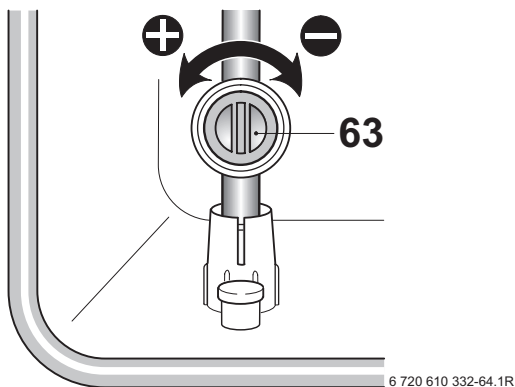

Fig. 47
- ▶ Adjust the gas flow restrictor (63) to obtain the CO2 level given in Table 14. Refer to fig. 47.